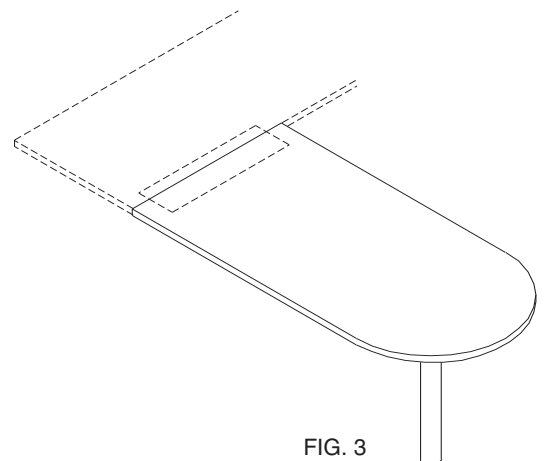

FIG. 3
1. When the square end of a "D" worksurface is to be attached to an adjacent worksurface (Figure 3), you will use the large splice plate and screws that are included with the worksurface. The "D" worksurface is pre-drilled to accept the splice plate. Due to the wide variety of locations where the "D" worksurface might be attached to the adjacent worksurface, pilot holes will need to be drilled once the final location is determined. Pilot holes should be $\frac{3}{16}$ " dia. x $\frac{5}{8}$ " deep.